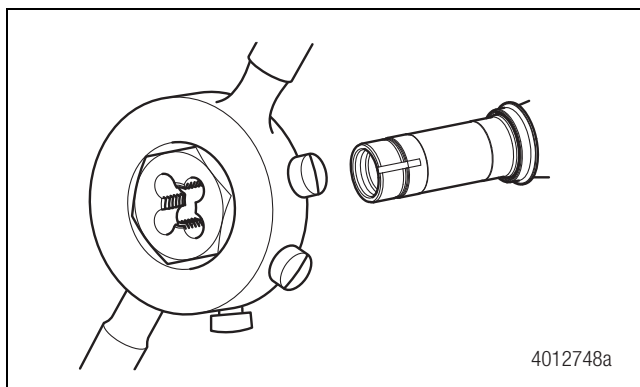

Figure 4.3
2. Inspect the axle spindle threads. Repair the damaged threads with a correct sized die. Figure 4.3.